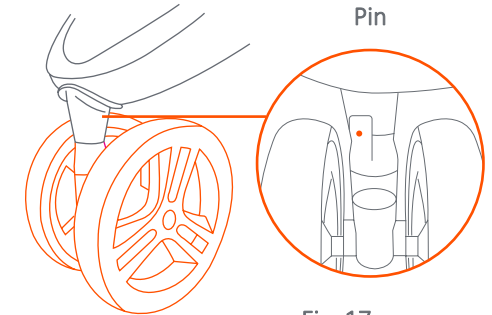

Fig. 17a
**If replacing the front wheel:** press the pin located behind the wheel hub. Pull the wheel out from the hub (Fig. 17a).